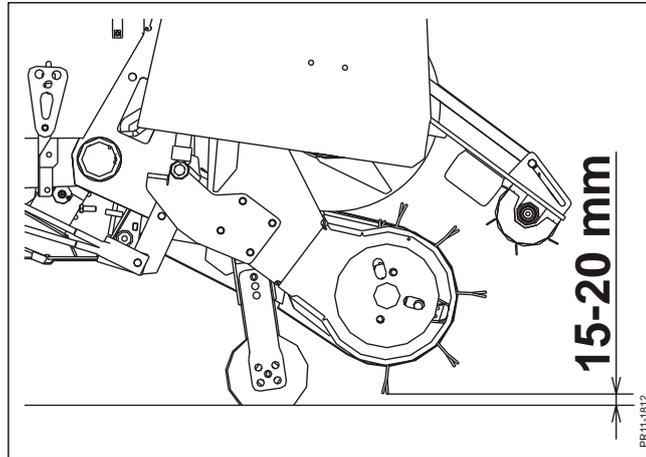

Fig. 4-1
**Fig. 4-1** The pick-up is equipped with support rollers made of steel which are adjustable in height. You should keep the pick-up at such a height that the tines do not hit the ground and leave earth in the crop and can also pick up the grass without waste.